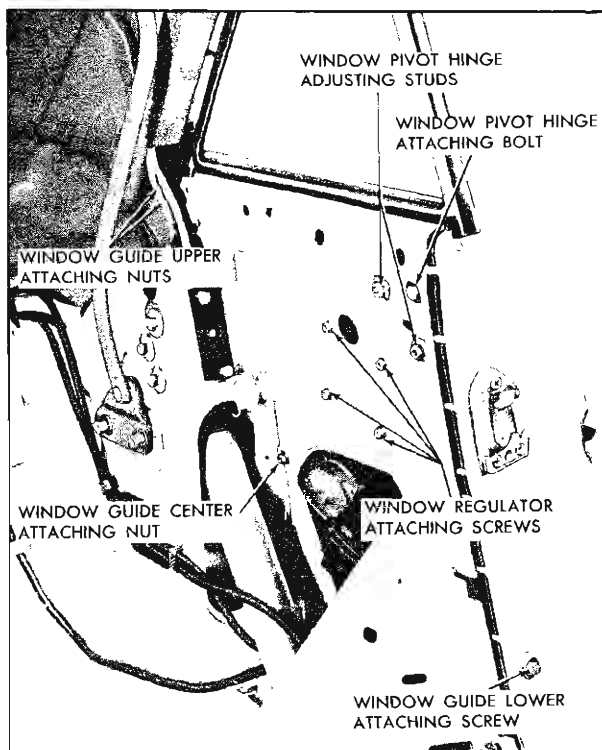

Fig. 4-8 Rear Quarter Hardware—"67" Style
3. Remove window pivot bolt (Fig. 4-8). Disengage window male hinge from female hinge plate; then raise window to disconnect window lower sash channel cam from roller on window regulator lift arm and remove window.
screws (Fig. 4-8); then adjust upper stop to desired position and tighten guide attaching screws.
a. Up or down or fore or aft window adjustment: Loosen pivot bolt and both adjusting stud nuts (Fig. 4-8). Position window as required; then tighten pivot bolt and stud nuts.
b. In or out adjustment of top of window: Loosen lower adjusting stud nuts and slightly loosen rear stud nut. Adjust lower stud in or out, as required; then tighten bolt stud nuts (Fig. 4-8).
c. In or out adjustment of rear window: Loosen pivot hinge rear adjusting stud nut and (slightly) lower adjusting stud nut. Loosen window guide upper attaching nuts and center stud nut (Fig. 4-8). Adjust rear adjusting stud in or out, as required, then tighten both stud nuts. Adjust window guide for proper alignment with window and tighten upper attaching nuts and center stud nut.
5. Remove regulator attaching screws (Fig. 4-8). Disengage regulator lift arm roller from window lower sash channel cam and remove regulator.
3. Remove window guide upper and center attaching nuts and lower attaching screw (Fig. 4-8). Disengage window guide and remove guide through large access hole.
"47" and "57" styles—Figure 4-8, 4-11